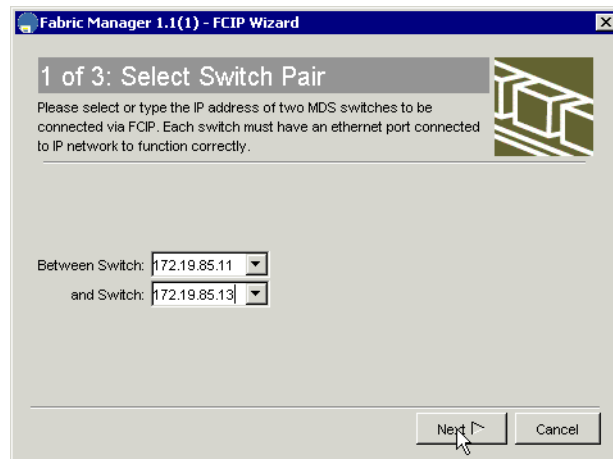

Figure 2-123 FCIP tunnel wizard 1
1. Start the FCIP wizard by choosing the path **Edit—>FCIP Tunnel** from the Fabric Manager main menu. You will see the wizard window as shown in Figure 2-123.